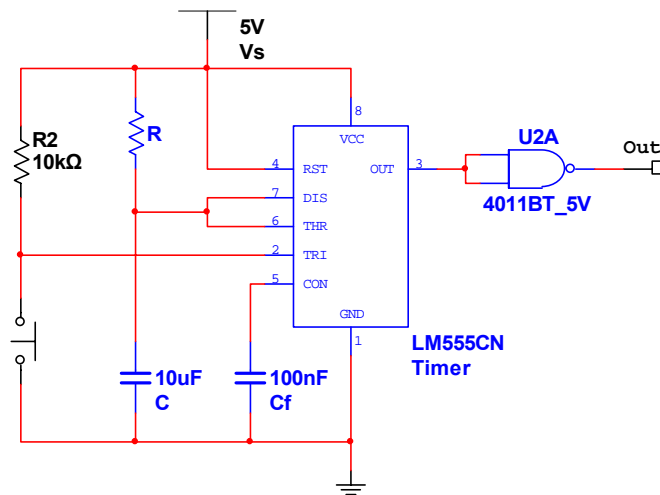

Figure 7-7 – Monostable “one-shot” for triggering the counter.
We can generate a suitable timing pulse using a 555, configured as a monostable multivibrator. A circuit for doing this is shown in Figure 7-7. Here the pushbutton switch triggers the device. The output goes high for a time period given by  $T = 1.1RC$ . We use an inverter at the output to invert the pulse, so that the output is normally high, and goes low for the period  $T$ .
- Build the monostable in Figure 7-7. Choose the resistor  $R$  to give the appropriate pulse duration for displaying revolutions per second as described above, and verify on an oscilloscope (note you can use your bench function generator to trigger the device periodically to vary the operation).